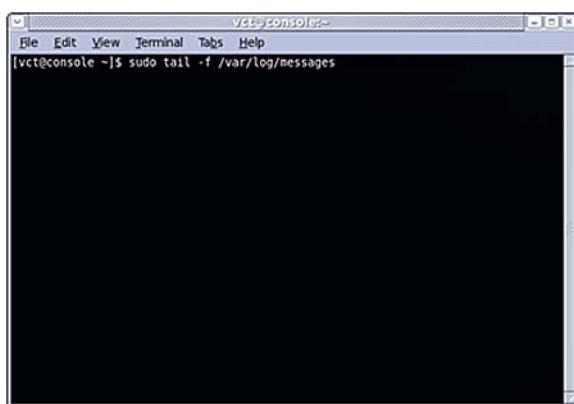

Figure 5-7
5. On the Console computer, select “Application - System Tools - Terminal” to launch a terminal window. (Figure 5-7)